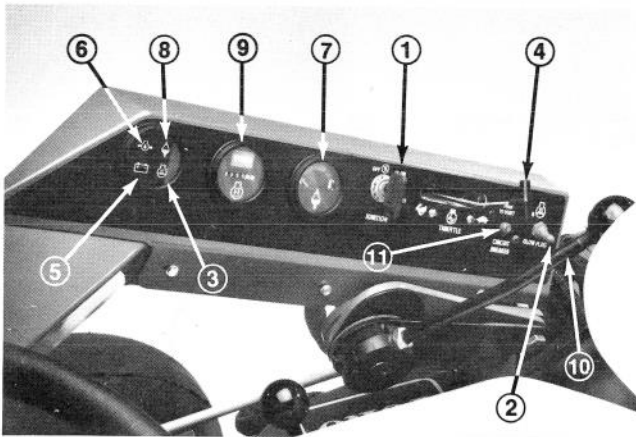

Figure 17
IGNITION KEY SWITCH (Fig. 17)
GLOW PLUG SWITCH AND INDICATOR (Fig. 17)
THROTTLE CONTROL (Fig. 17)
BATTERY CHARGING INDICATOR (Fig. 17)
ENGINE OIL PRESSURE INDICATOR (Fig. 17)
COOLANT TEMPERATURE GAUGE & INDICATOR (Fig. 17)
HOUR METER (Fig. 17)
STEERING ARM HEIGHT SELECTOR LEVER (Fig. 17)
CIRCUIT BREAKER (Fig. 17)
4. When engine is cold, push glow plug switch to ON position (Fig. 17) and hold for suggested interval.
5. Turn engine key to START position (Fig. 17). Release key immediately when engine starts and allow it to return to ON position. Move throttle control to SLOW position.